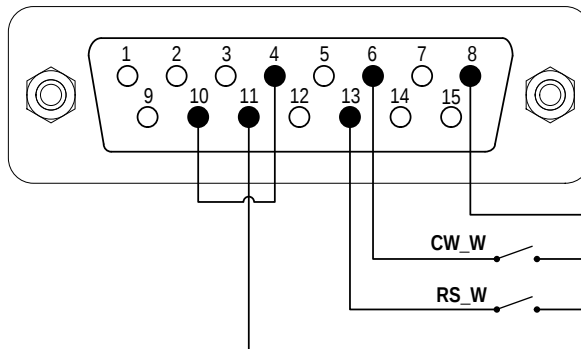
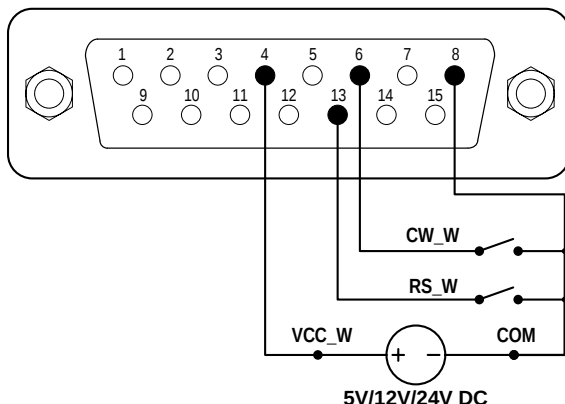

Figure 18. Logic Level 2 Control with the Internal 12V Power Source
Figure 19. Logic Level 2 Control with an External Power Source
- 1) Turn off the power. Wire the DB15 connector as shown in Figure 18 or Figure 19, and connect it to the DB15 port on the rear of the pump.